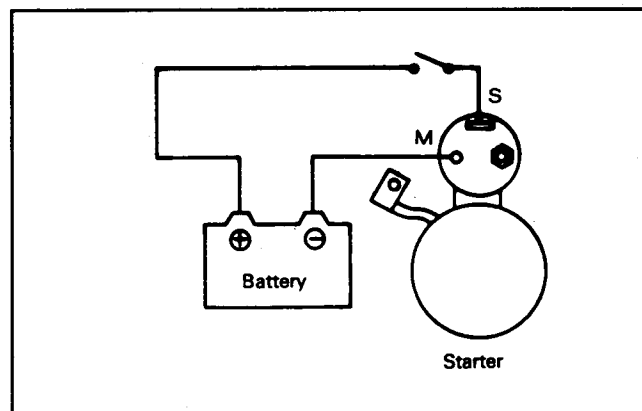

Figure 23
1. Disconnect the wire from terminal "M" (Fig. 23).